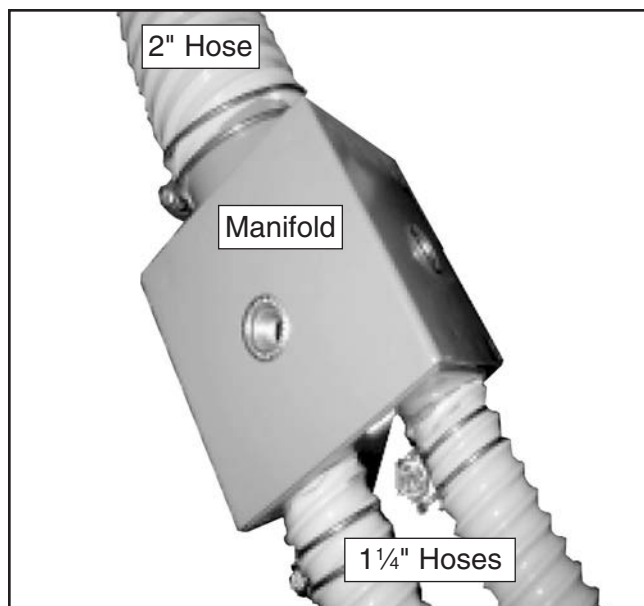

Figure 45. Vacuum hoses attached to the vacuum manifold.
51. Use the 2" hose clamps to attach one end of the 2" x 39" vacuum hose to the cyclone vacuum port and the other end to the vacuum manifold (see **Figure 45**).
52. Connect the vacuum hoses between the vacuum manifold and the collection drum vacuum ports with (4) 1 1/4" hose clamps (see **Figure 45–46**).